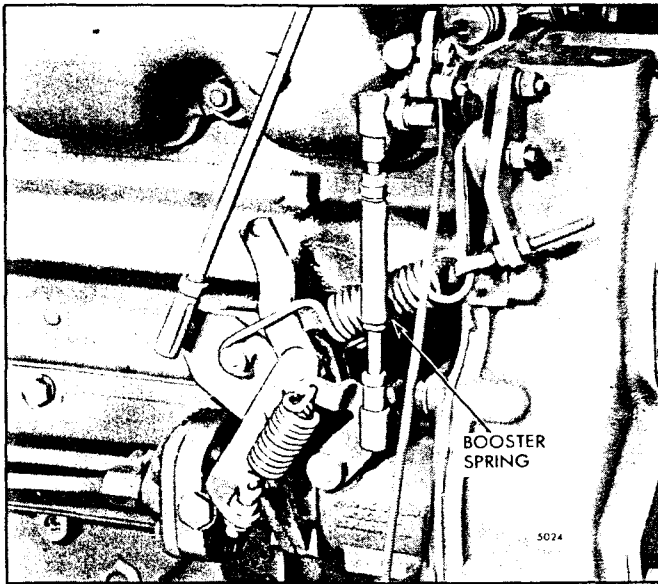

Fig. 8 - Governor Booster Spring
1. Reduce the tension on the booster spring (Fig. 8) to the minimum by backing off the outer nut.